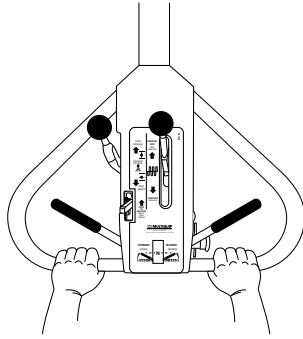

Figure 26. Travel Levers (Neutral Position)
1. With the engine running, both forward and reverse travel levers (Figure 26) should be in their neutral positions.